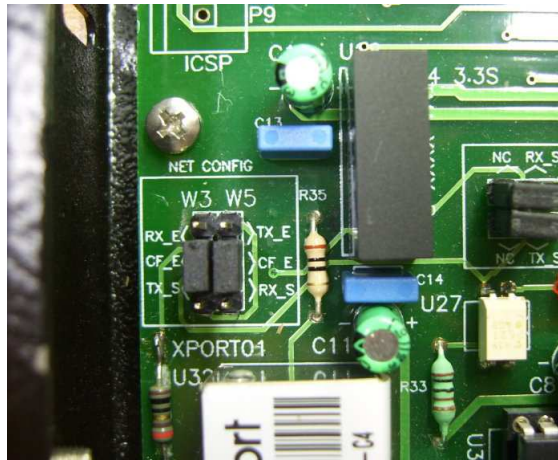

Figure 7.2A
1. Open the PAA29+ top lid and set the jumpers W3 and W5 (NET CONFIG) in the position CF_E like in the **figure 7.2A**.